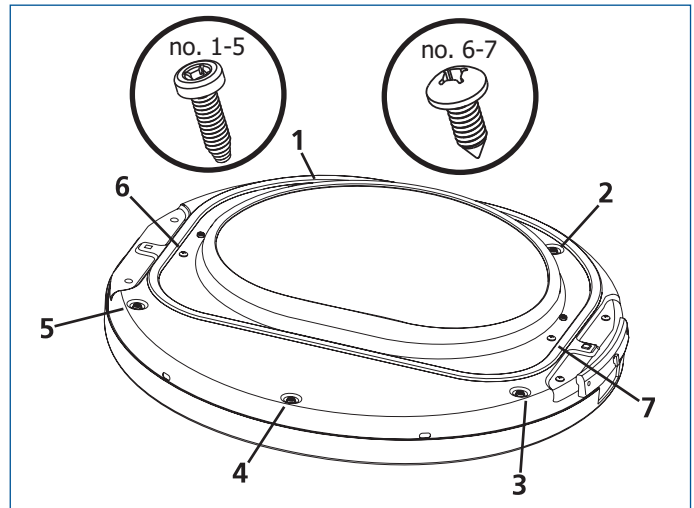

Figure 2-28.
3. Replace indented head screws (no. 1-5) removed earlier. Take care not to strip out the plastic holes. (See Figure 2-28)
4. Replace pan head screws (no. 6-7) removed earlier. Take care not to strip out the plastic holes. (See Figure 2-28)